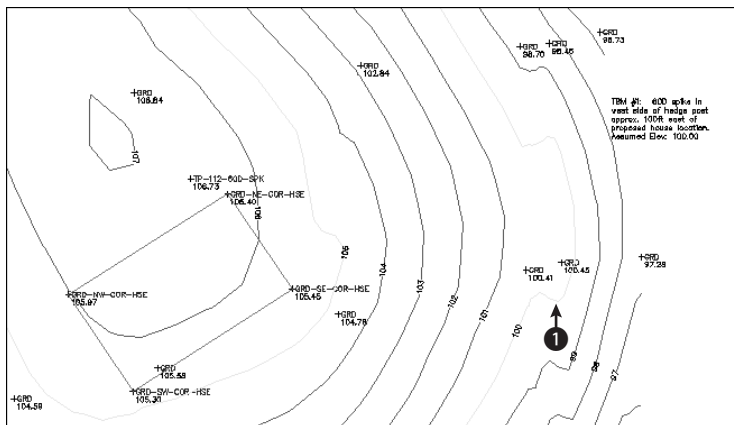

Figure 16-5: The topographical drawing’s contours are polylines.
2. Save the file as ab16-02.dwg in your AutoCAD Bible folder. This is a topographical drawing as shown in Figure 16-5. The contours are polylines.
3. Choose Modify ⇨ Object ⇨ Polyline to start the PEDIT command. Select the polyline at ❶ in Figure 16-5.
5. Type **e** ↵ to choose the Edit vertex option. At the Enter a vertex editing option [Next/Previous/Break/Insert/Move/Regen/Straighten/Tangent/Width/eXit] <N>: prompt, type **n** ↵ several times until the **x** mark is at ❶ in Figure 16-5. (There are many vertices—it's not important that you find the exact one.)